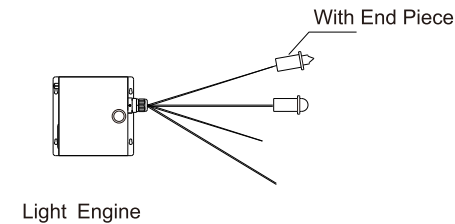

Fig.4
- (2) End Lighting Fiber Optic. (See Fig.4).